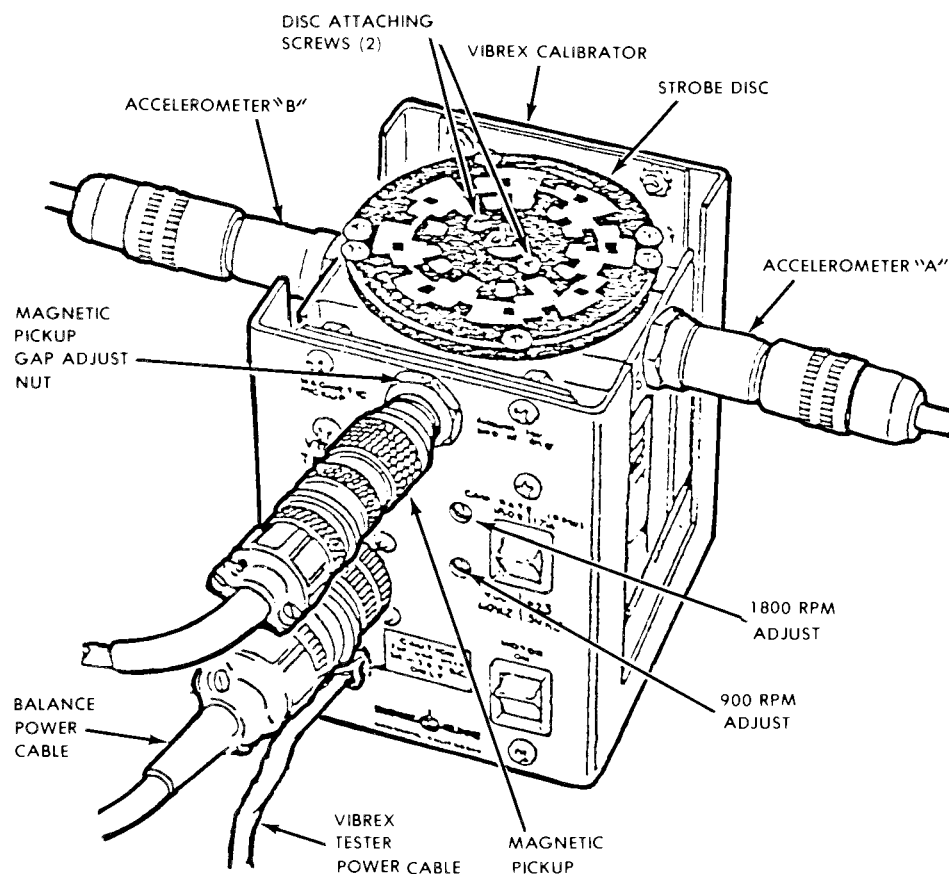

Figure 3-2 Tester, Accelerometer and Magnetic Pickup Installation
- (1) Install two Accelerometers and a Magnetic Pickup on the Tester as shown in figure 3-2. Screw Magnetic Pickup in until it just touches the interrupter screws. Then, back out about one flat (1/6 turn) to provide clearance. Tighten jam nut on pickup.
- (2) Connect Magnetic Pickup and Accelerometer Cables as shown in figure 3-2. Dress the Accelerometer Cables around behind the Tester so there is no force from the cables that might pull the cam followers away from the cam.
- (3) Connect Balancer Power Cable to the Tester and ensure Tester Power Cable is still connected to +28 vdc power source,
- (4) Set Balancer controls as follows:
- (C) RPM RANGE to X10.
- (5) Adjust Tester as follows:
- (b) Set CAM RATE (RPM) switch to 1800 and observe that the black and white outer ring of segments on the strobe disc appear to be stopped when illuminated by 60 Hz fluorescent room lights. If the segments are not stopped under 60 Hz fluorescent lighting, adjust 1800 RPM adjust (fig. 3-2) until the outer ring of black and white segments appear to be stopped.
- (c) Set Tester CAM RATE (RPM) and Balancer RPM Tune to 900. RPM RANGE to X1. Observe that the second ring of black and white segments on the strobe disc appear to be stopped when illuminated by 60 Hz fluorescent room lights. If segments are not stopped under 60 Hz fluorescent lighting, adjust 900 RPM adjust (fig. 3-2) until these second ring of black and white segments appear to be stopped.